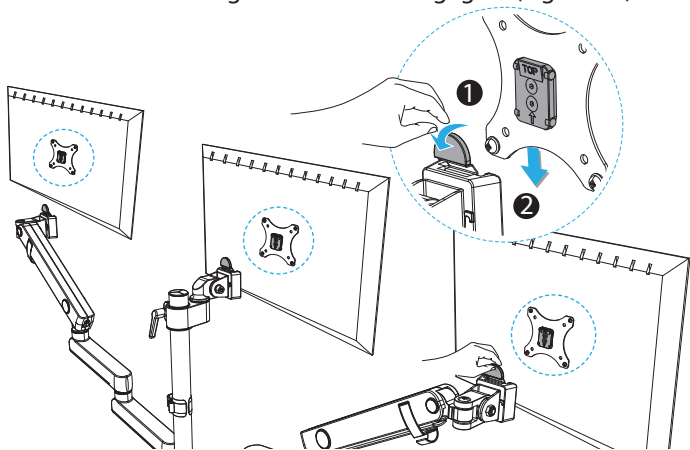

Figure 18
1. **Pull Back** and **Hold** the **Spring Tab**, slide the **Monitor VESA Mount** into the **Head Slot**. Release the **Spring Tab** and ensure the locking mechanism is engaged. (Figure 18)